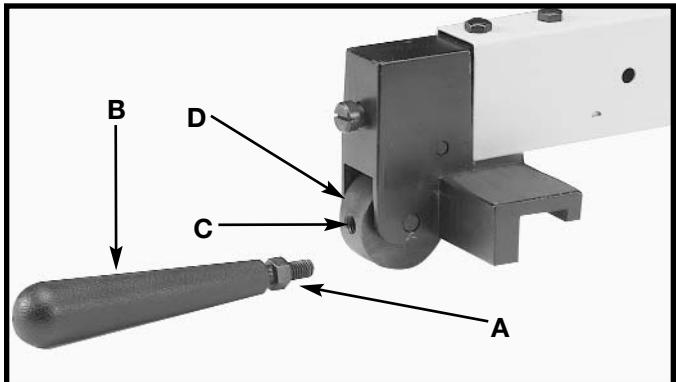

Fig. 26
1. Thread the M8x1.25 hex nut (A) Fig. 26, approximately halfway on the stud of the handle (B).
2. Thread the handle (B) Fig. 26 into the tapped hole (C) in the fence cam (D). Tighten the hex nut (A) Fig. 27 against the cam (D).